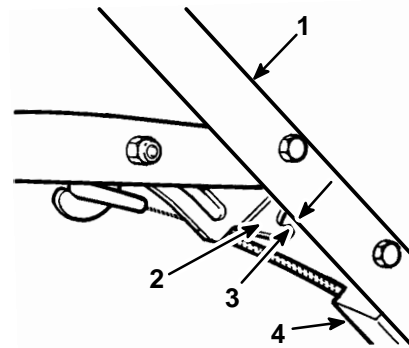

Figure 24
- CHECK ADJUSTMENT (Fig. 24 & 25)—Move control bar toward handle until slack in wire is removed. Gap between brake lever and handle must be 3/16"-1/4". See Step 3 for adjustment.
Self-propelled Model (Fig. 24)